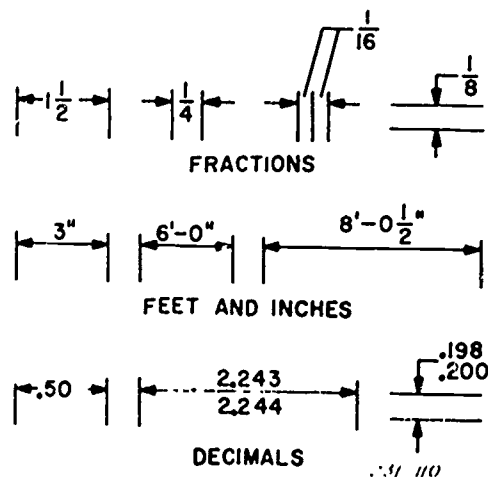

Figure 4-80. Dimensioning method.
**Dimensions.** Since the numerical value or dimension (item 7, FO 2) is the most important element of dimensioning, the numerals must be carefully lettered. Either a vertical or an inclined style can be used. One-eighth of an inch for small drawings and five thirty-seconds of an inch for larger drawings are good general sizes.
**Common fractions.** As shown in figure 4-80, a dimension may consist of whole numbers, fractions, feet and inches, or decimals. When common fractions are used, the fraction bar is placed parallel with the guide lines, and the numerator and denominator are made somewhat smaller than the whole number so that the total height of the fraction is twice that of the whole number. The numerals do not touch the fraction bar. Notice that, when the dimension occupies the open space of a dimension line, the fraction bar is aligned with the dimension line, but the two do not touch. The three presentations at the right of the top row show the different ways to place the dimension when the space is limited. In one method you place the dimension figure between the extension lines and the dimension lines on the outside pointing toward the figure. When the space is too small to allow enough room for a figure, the dimension may be placed as in the two presentations on the right.
**Feet and inches.** Dimensions in feet and inches are represented with the symbols (' ) and ( " ), as shown in the center row of figure 4-80. When the dimension is in even feet, such as 6 feet and no inches, the dimension is written as 6' 0". When a dimension is in feet and a fraction of an inch, a zero is used in front of the fraction; for example, 6' 0 1/2". When the dimension is all in inches, the inch mark is usually omitted from all dimensions and notes unless there is some possibility of misunderstanding. For example, a note consisting of 1 DRILL would be written as 1" DRILL so that it would not be interpreted as "drill one hole."